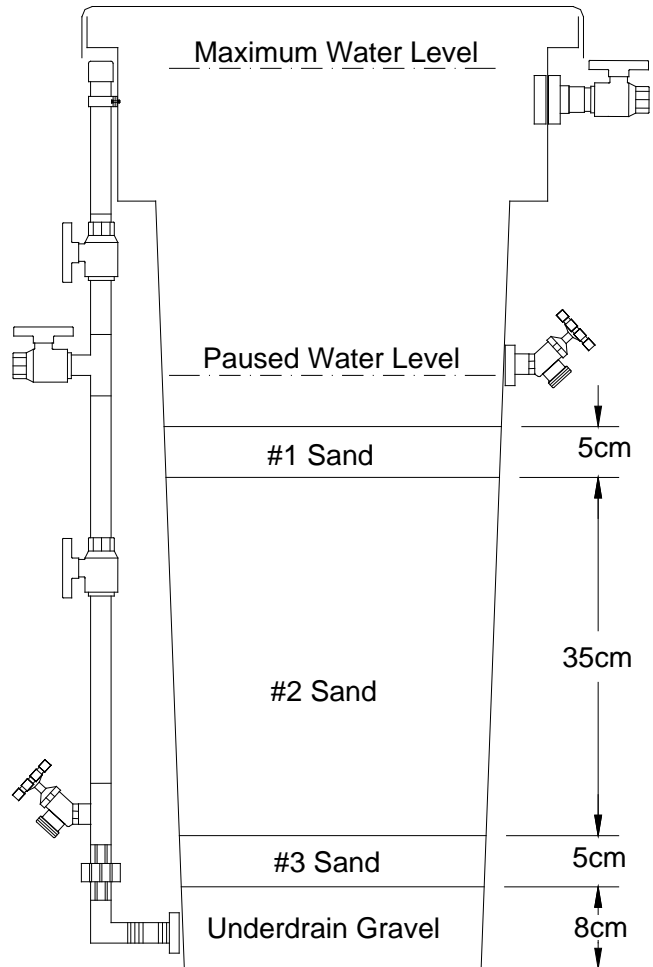

Figure 4-1 Filter Media and Filter Water Levels
**Step 3.** Add the underdrain gravel to the level indicated (figure 4-1).
**Step 4.** Level the surface of the underdrain gravel. Referring to Figure 4-1, add the #3 sand to the level indicated on the filter body. Repeat this procedure with the #2 sand and the #1 sand.
**Step 4.** Open the filter inlet valve to begin filling. Adjust the mechanical float valve in the filter such that the water level does not go higher than the filter overflow. Now wait until the water level reaches the maximum water level in the filter (Figure 4-1).